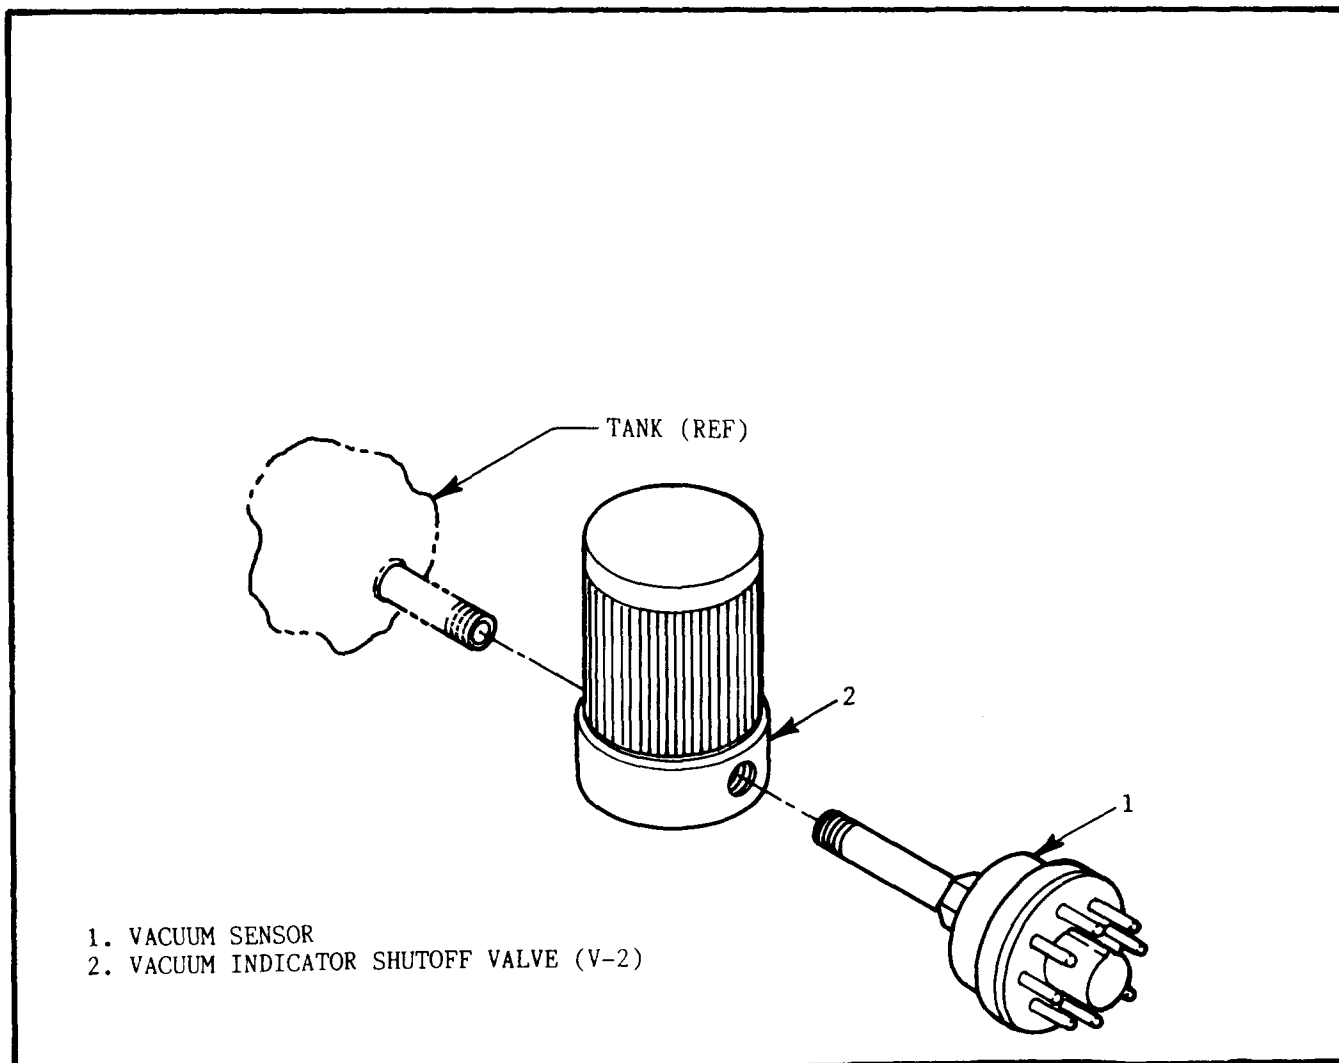

Figure 3-9. Vacuum Sensor and Vacuum Indicator Shutoff Valve.
3-2.2.9 Vacuum Sensor (VS) and Vacuum Indicator Shutoff Valve (V-2) Removal and Disassembly (Figure 3-9). The VS and V-2 consists of a valve and sensor. The sensor will allow attachment of a Vacuum Gage which can determine the annulus vacuum level (Refer to Figure 2-1 and Table 2-1 of the Operation and Maintenance Instructions, TO 37C2-8-29-1). Removal is as follows: